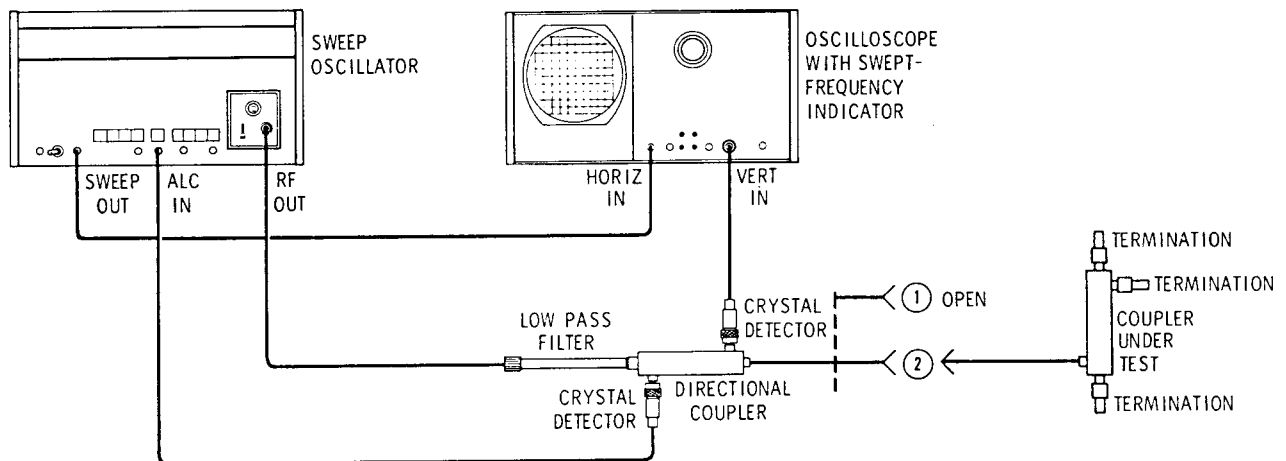

Figure 10 Swept-Frequency Auxiliary Arm SWR Test Setup
To test a 775D use another good 775D as the directional coupler in Figure 10.
Description Refer to Figure 10 for test setup and for test equipment.
1. Connect the equipment as shown at (1) in Figure 10.
- a. Connect the 775D under test as shown at (2) in Figure 10.